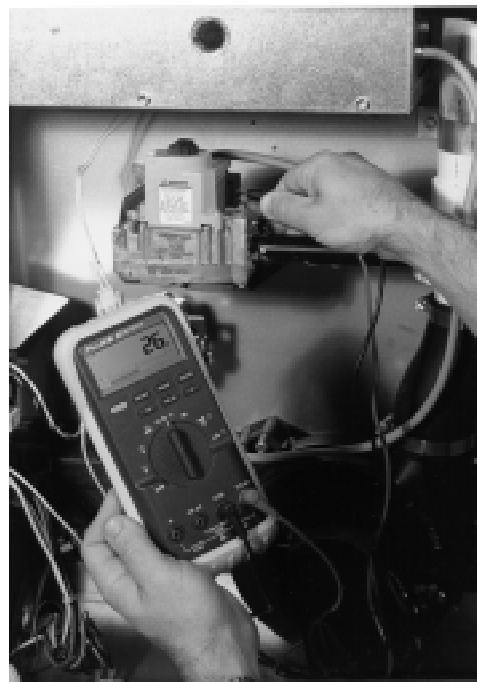

Figure 45.
3. After furnace has operated for approximately 60 seconds, the gas valve receives 24 vac from the control board. (See Figure 45.)